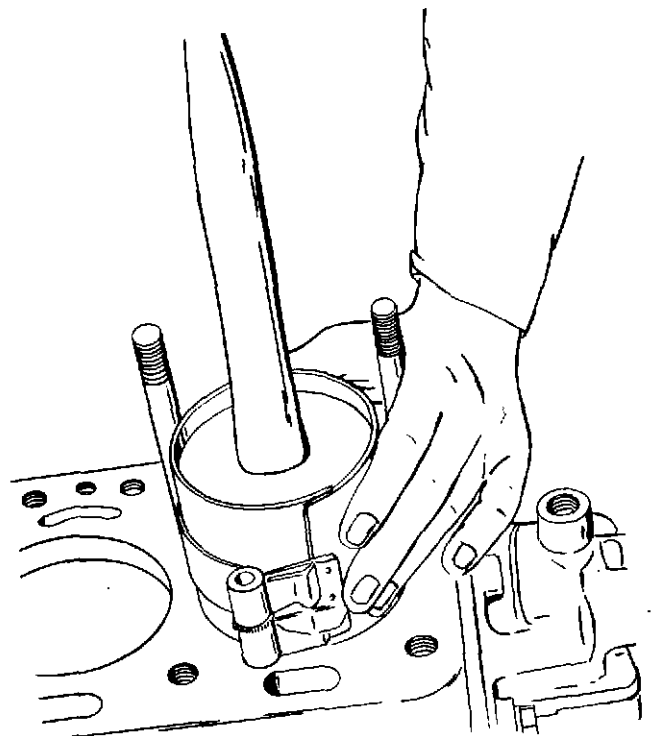

Figure 5-40. Piston Installation
10. Use a ring compressor to compress the piston rings to facilitate installation of the assembled piston and rod. Remove the connecting rod bearing cap, wipe the bearings clean, and insert the piston from the top of the cylinder block. Use a hammer handle or block of wood against the top of the piston to push the piston into the cylinder bore. See figure 5-40. Make certain that the connecting rod is in line with the crankshaft journal and that the bearing is properly positioned in the connecting rod.